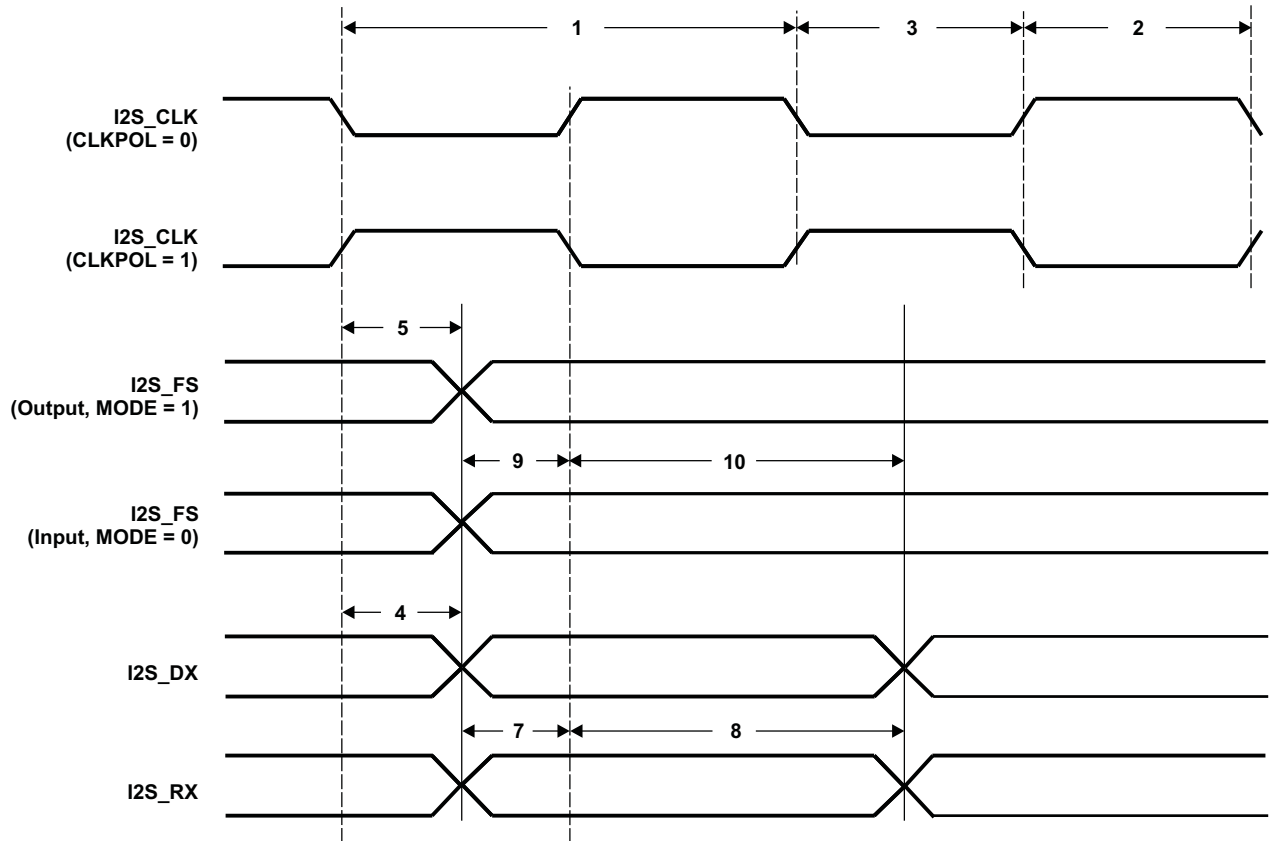

Figure 5-30. I2S Input and Output Timings
**Table 5-36. Timing Requirements for I2S [I/O = 3.3 V, 2.75 V, and 2.5 V](1) (see Figure 5-30)**
(1) P = SYSCLK period in ns. For example, when the CPU core is clocked at 100 MHz, use P = 10 ns.
(2) Use whichever value is greater.
(3) In Slave Mode, I2S\_FS is required to be latched on both edges of I2S input clock (I2S\_CLK).
**Table 5-37. Timing Requirements for I2S [I/O = 1.8 V](1) (see Figure 5-30)**
**[I/O = 3.3 V, 2.75 V, or 2.5 V] (see Figure 5-30)**
[I/O = 1.8 V] (see Figure 5-30)**